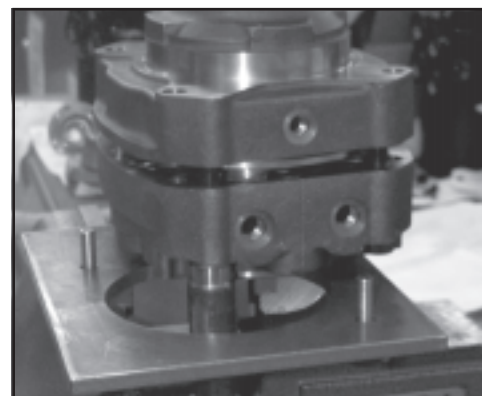

Figure A15
12. Place front housing on top of rear housing and install brake housing bolts. Torque brake housing bolts in a uniform sequence. Align the brake release port to the front housing. Finish torque on 4 bolts is 90 ft. lbs. SEE FIGURE A15